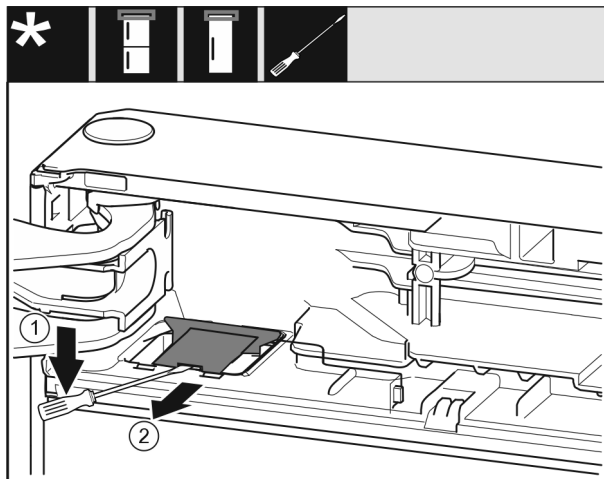

Fig. 10
- Unlatch the cover with a slotted screwdriver and lift it up. Fig. 10 (1)
- Take out the cover. Fig. 10 (2)